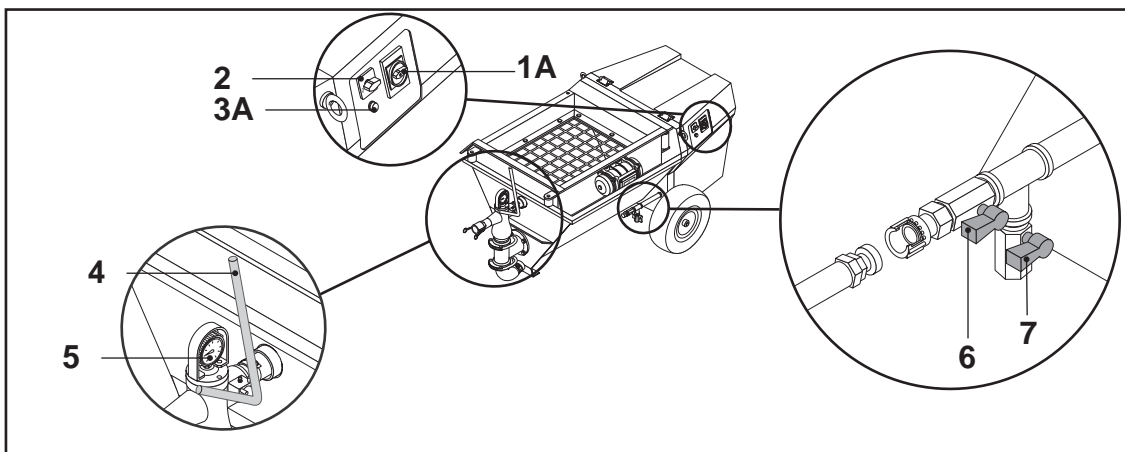
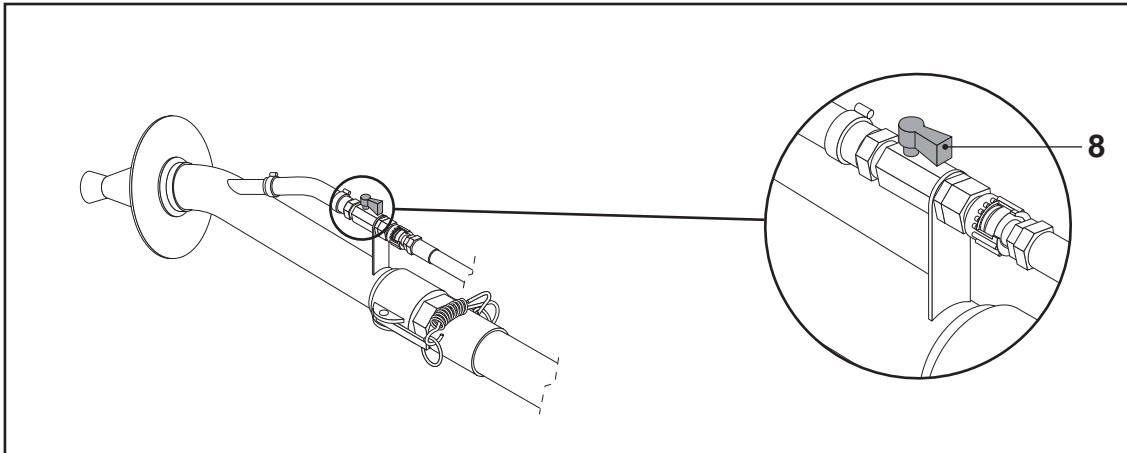
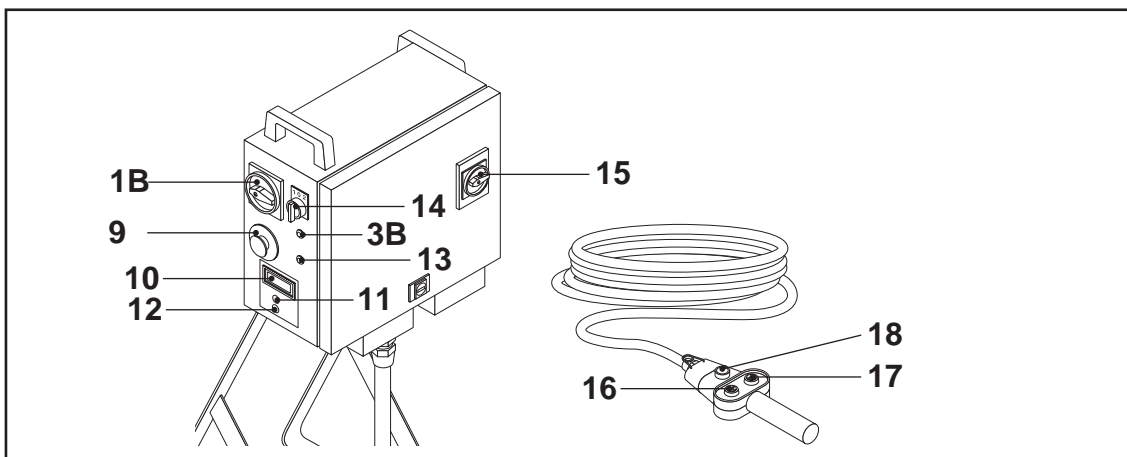

FIG.27
FIG.28
FIG.29
- Check that the air flow cock (FIG.27-REF.6) is open, that the bleed cock is closed (FIG.27-REF.7) and that the air cock to the gun (FIG.28-REF.8) is open.
**Note: Switches (FIG.27-REF.1A) and (FIG.27-REF.3A) are not present in the electric control board present inside the MINI AVANT VARIO version bodywork.**
The green indicator (FIG.29-REF.3B) switches off when the sieve or safety grill and/or bodywork are raised or when the power supply voltage is not correct.
The red indicator (FIG.29-REF.13) switches on when the inverter intervenes to protect the engine from overloading: flashing messages appear on the display (FIG.29-REF.10) and on the inverter display (inside the electric control board on stand).
For the emergency stop, turn the red master switch on yellow background to position "0" zero (Single-phase and Three-phase) (FIG.15-REF.1) or press the mushroom-shape switch on the electric control board (FIG.29-REF.9).
- Start the engine by turning the master switch (FIG.27-REF.1A) to position 1 (ON).
**The indicator (FIG.27-REF.3A) switches on indicating that the power supply voltage value is correct. Switch-off of this indicator, even momentarily, is a symptom that the voltage is below the minimum value acceptable: check the power supply line.**
- Open and close the cock quickly two or three times (FIG.27-REF.6) to check the correct functioning of the pneumatic control: MINI AVANT must stop and re-start.
- switch the machine off by turning the master switch (FIG.27-REF.1A) to position 0 (OFF).
- Start the engine by turning the master switch (FIG.29-REF.1B) to position 1 (ON).
**The indicator (FIG.29-REF.3B) switches on indicating that the power supply voltage value is correct. Switch-off of this indicator, even momentarily, is a symptom that the voltage is below the minimum value acceptable: check the power supply line.**
- Position the engine protector knob (FIG.29-REF.15) in position 1.
- Position the selector switch (FIG.29-REF.14) in position:
Make sure that MINI AVANT starts and stops normally by opening and closing the air flow cock (FIG.27-REF.6) or acting on the remote control start/stop selector switch (FIG.29-REF.18) depending whether the selector switch (FIG.29-REF.14) is respectively in position 1 or 2.
- Adjust the flow rate using the buttons (FIG.29-REF.11) to increase it and (FIG.29-REF.12) to decrease it. With the selector switch (FIG.29-REF.14) in position 2, on the remote control, increase the flow rate using the button (FIG.29-REF.17) and decrease the flow rate using the button (FIG.29-REF.16).
- The display (FIG.29-REF.10) shows the power supply frequency, variable between 10 and 70 Hz (the inverter display, inside the control board on stand indicates the same value).
- switch the machine off by turning the master switch (FIG.29-REF.14) to position 0 (OFF).
- Take the by-pass lever (FIG.27-REF.4) to the horizontal position: the machine starts to pump slurry into the piping.
- Before the slurry ends, pour the mixture prepared into the cement mixture on the vibrating frame. The vibrating frame must have been switched-on previously using the switch (FIG.27-REF.2).
MINI AVANT is now operational and can be stopped by acting on the air cock positioned on the gun (for all versions) or on the button (FIG.29-REF.18) (for VARIO version only).
During the pumping phase, the operator at the machine must check that the manometer (FIG.27-REF.5) never exceeds 12-15 bar.
- Turn the master switch (FIG.27-REF.1A) or (FIG.29-REF.1B) first to position 0 (OFF) and then to position 1 (ON).
In the VARIO version, perform this operation with the selector switch (FIG.29-REF.14) in position 0.